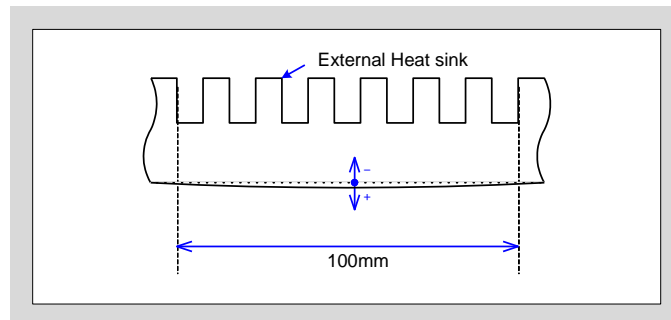

Fig.6-2 The measurement point of heat sink flatness
- Fig.6-2 shows the measurement position of heat sink flatness.